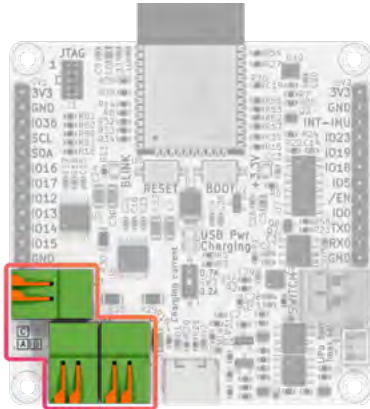

Figure 12: Motor connections
In *Figure 12* you can see where the motor connections are located. A total of three brushed direct current (DC) motors can be connected to these (not included). The connections are labeled A, B and C.